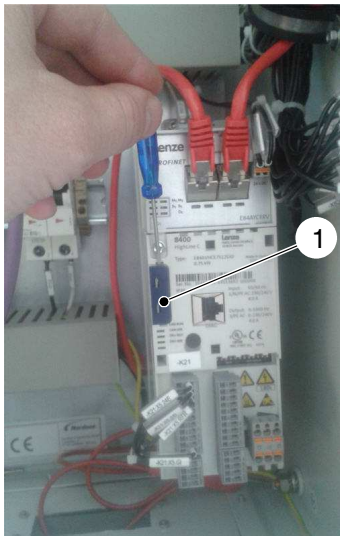

Fig. 7-8
3. Wait at least three minutes. Then first remove the memory module (1, Fig. 7-8) from the defective motor controller.